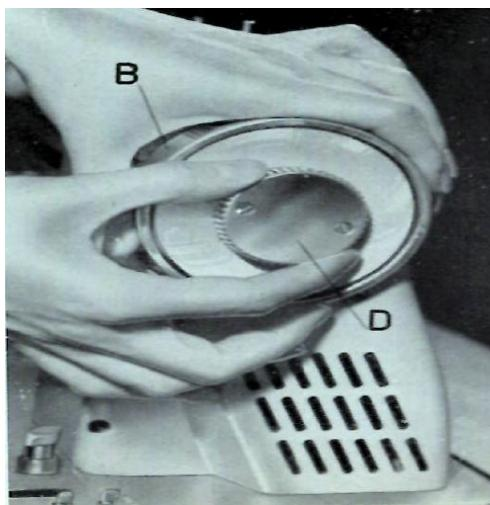

Figure 12
- Disconnect the flywheel B (figure 12) from sewing mechanism by holding the wheel with the left hand and turning the stop motion knob D toward you with the right hand until the knob feels loose.